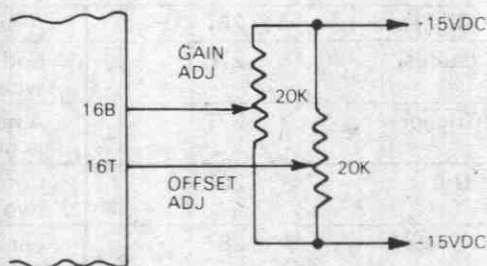

FIG 1 EXTERNAL ADJUSTMENTS
- Offset and gain adjustments may be made either internally or externally. Self-contained trimming potentiometers are provided for the internal adjustments. For external adjustment, 20K trimming potentiometers must be used with pins 16B and 16T. Connect as shown in Figure 1.